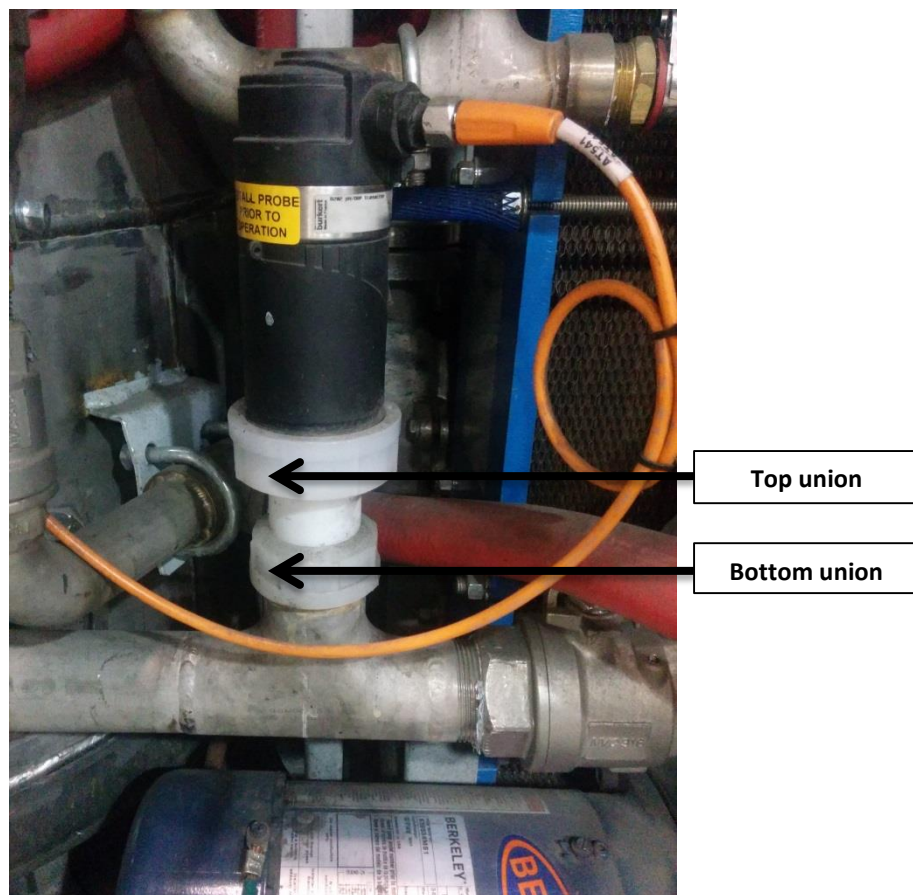

Figure 4: pH Transmitter
1. Unscrew the top union (See **Figure 4**)
4. Unscrew the bottom union (See **Figure 4**) to remove the adapter from MAGS.